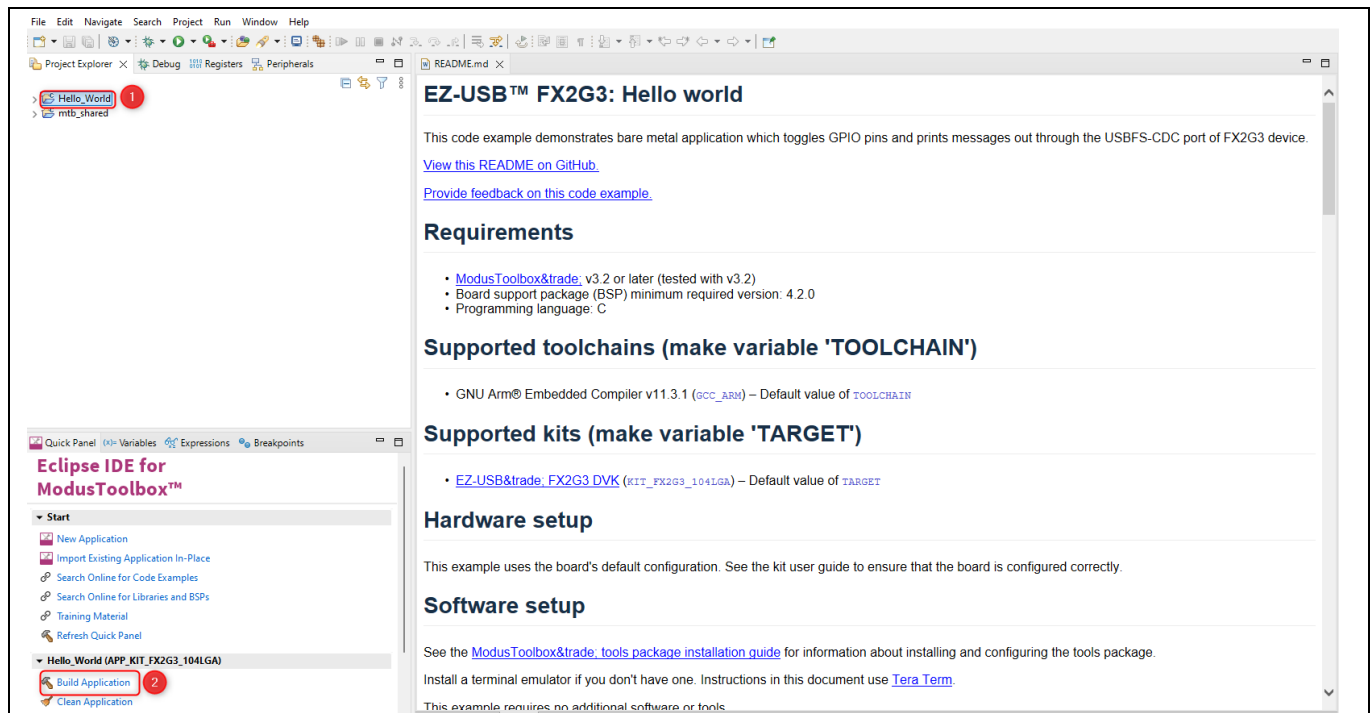

Figure 6 Building application using Eclipse IDE for ModusToolbox™ software
- In **Quick Panel**, select **Build Application**, as shown in Figure 6.